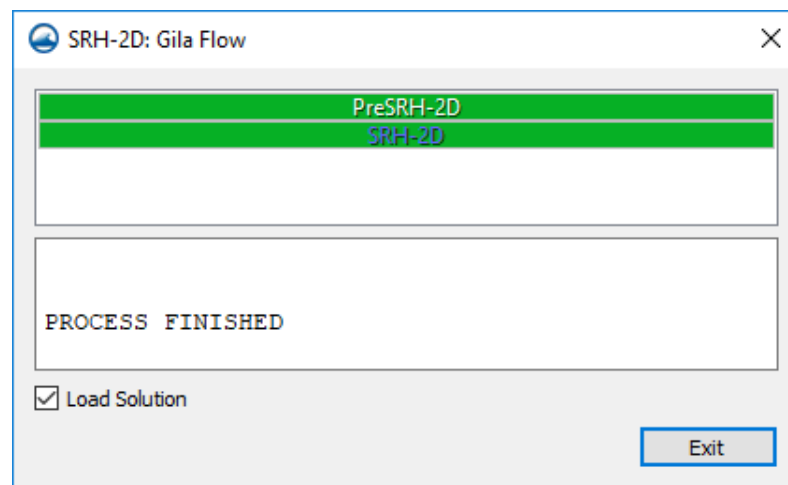
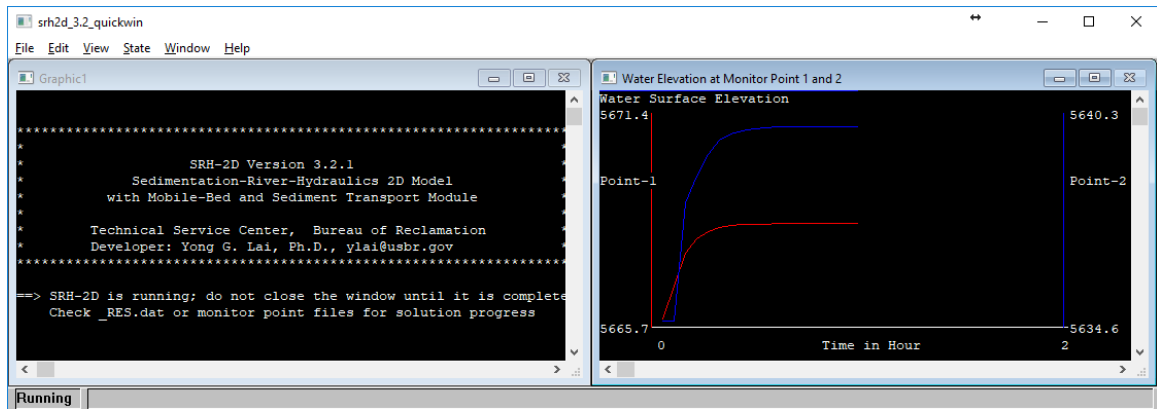

Figure 5 SMS Model Wrapper
Figure 6 SRH-2D run window showing SRH-2D run status
2. Click **OK** if a warning is displayed stating that the “Materials” coverage will be renumbered before exporting. This brings up the *SRH-2D: Gila Flow* model wrapper (Figure 5) and the SRH-2D run window (Figure 6).
4. Check the box next to *Load Solution* (Figure 5) and click **Exit** to close the *SRH-2D: Gila Flow* dialog.